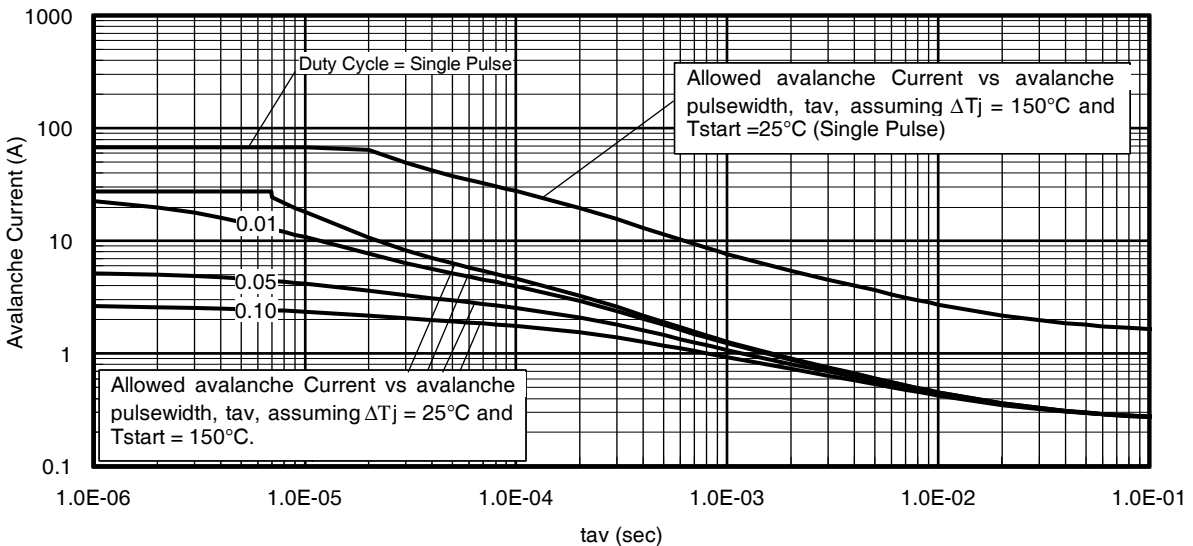

Fig 16. Typical Avalanche Current Vs. Pulsewidth
Notes on Repetitive Avalanche Curves, Figures 16, 17: (For further info, see AN-1005 at www.irf.com)
7. ΔT = Allowable rise in junction temperature, not to exceed T_{jmax} (assumed as 25°C in Figure 16, 17).